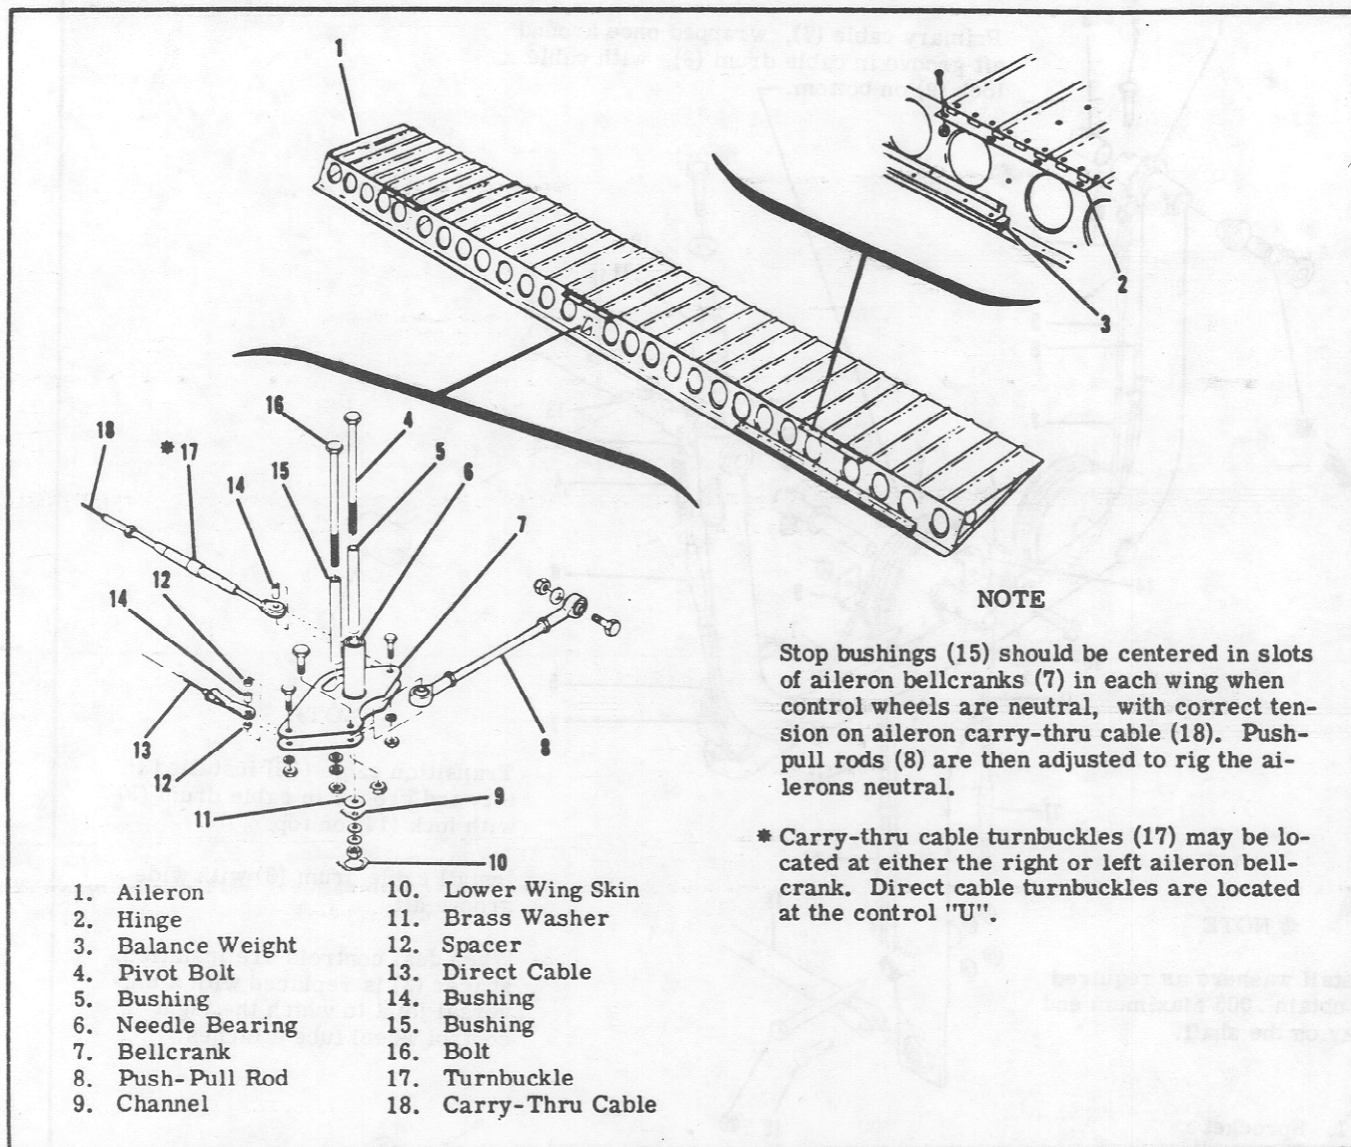

Figure 6-3. Aileron Installation
6-8. AILERON BELLCRANK. (Refer to figure 6-3.)
6-14. **AILERONS.** (Refer to figure 6-3.)
e. Adjust direct cable turnbuckles (17) below control "U" and single carry-thru turnbuckle (index 17, figure 6-3) at aileron bellcrank (index 7, figure 6-3) so bellcrank stop bushings (index 15, figure 6-3) are centered in both bellcrank slots with 40 ± 10 pounds tension on aileron carry-thru cable (index 18, figure 6-3). Disregard tension on direct cables, which will be different than tension on carry-thru cable.
f. Adjust push-pull rods (index 8, figure 6-3) at each aileron until ailerons are neutral with reference to trailing edge of wing flaps. Be sure wing flaps are fully up when making this adjustment.